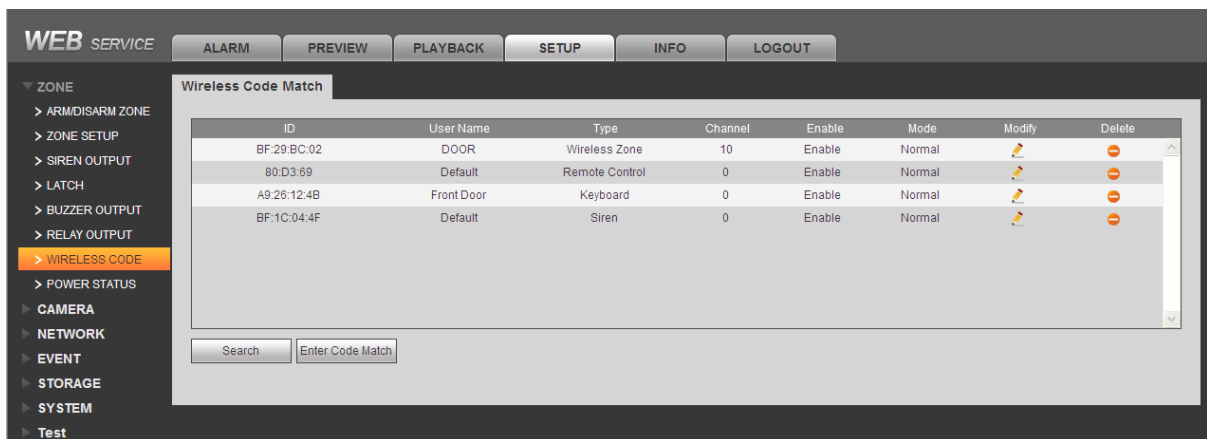

Figure 5-2
Step 1. In WEB Wireless Code interface, click Enter Code Match. See Figure 5-2.